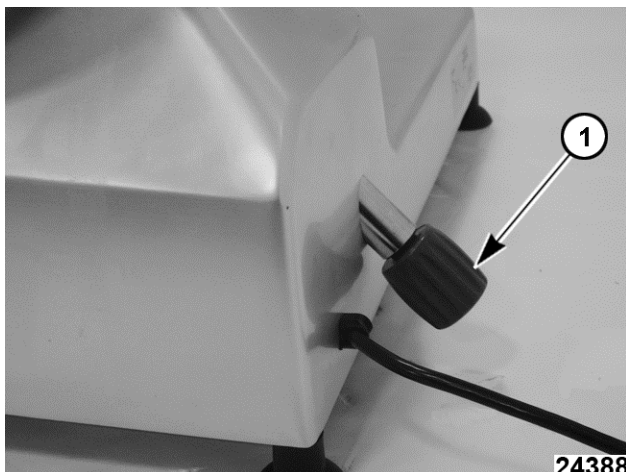

Fig. 5
1. Unscrew the knife cover knob (1, Fig. 5).